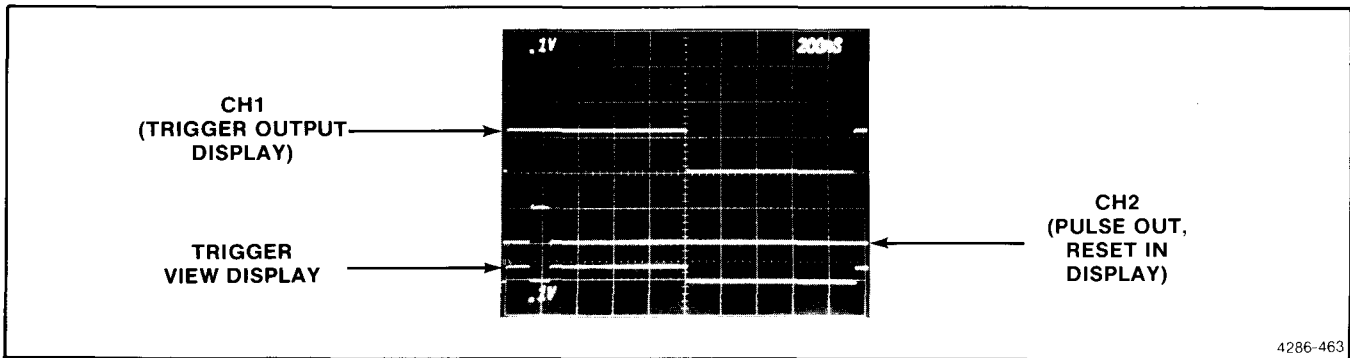

Figure 4-16. Relationship between the CH1, CH2, and Trigger View waveforms when checking the reset input pulse width.
- t. **CHECK**—that the display is triggered, and appears the same as illustrated in Figure 4-16.